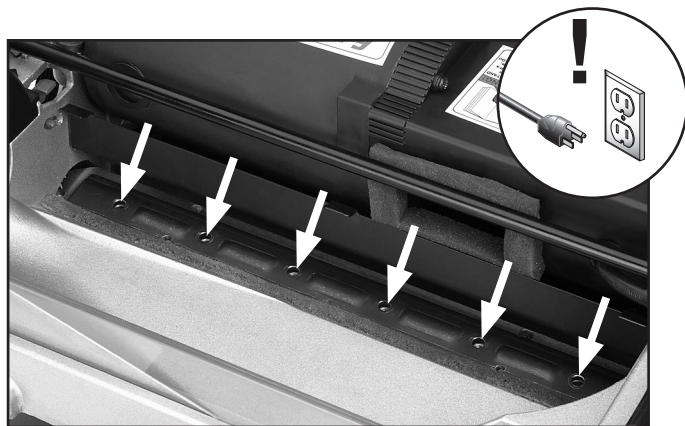

Figure 33. Gib installation.
3. Using the magnets, replace the gib over the knife. Secure the gib with the six screws in the locations shown in **Figure 33**.